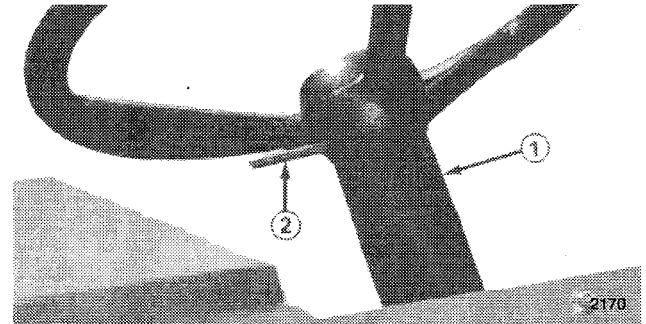

Figure 2
3. Secure steering wheel to shaft with roll pin (Fig. 2).